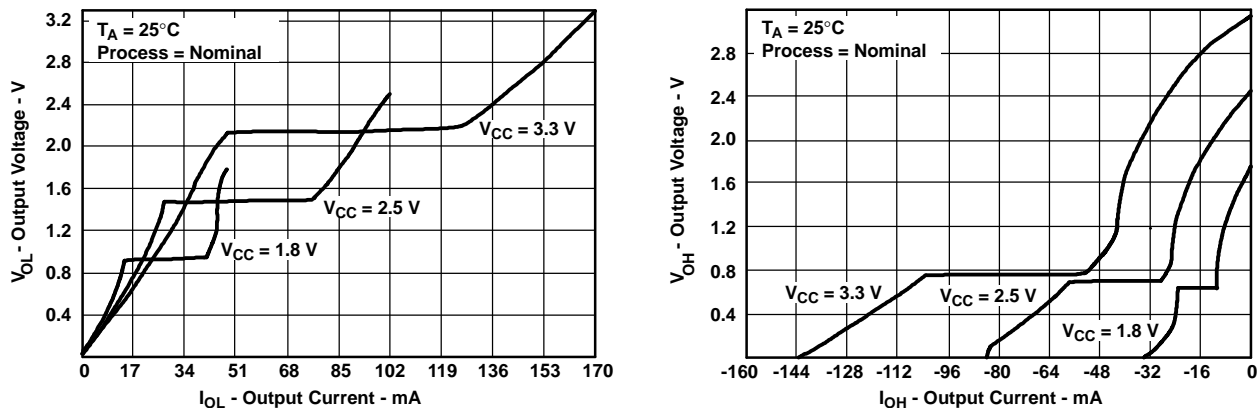

Figure 1. Output Voltage vs Output Current
A Dynamic Output Control (DOC™) circuit is implemented, which, during the transition, initially lowers the output impedance to effectively drive the load and, subsequently, raises the impedance to reduce noise. Figure 1 shows typical V_{OL} vs I_{OL} and V_{OH} vs I_{OH} curves to illustrate the output impedance and drive capability of the circuit. At the beginning of the signal transition, the DOC circuit provides a maximum dynamic drive that is equivalent to a high-drive standard-output device. For more information, refer to the TI application reports, *AVC Logic Family Technology and Applications*, literature number SCEA006, and *Dynamic Output Control (DOC™) Circuitry Technology and Applications*, literature number SCEA009.
(1) All unused inputs of the device must be held at V_{CC} or GND to ensure proper device operation. Refer to the TI application report, *Implications of Slow or Floating CMOS Inputs*, literature number SCBA004.
(2) Dynamic drive capability is equivalent to standard outputs with I_{OH} and I_{OL} of ±24 mA at 2.5-V V_{CC}. See Figure 1 for V_{OL} vs I_{OL} and V_{OH} vs I_{OH} characteristics. Refer to the TI application reports, *AVC Logic Family Technology and Applications*, literature number SCEA006, and *Dynamic Output Control (DOC™) Circuitry Technology and Applications*, literature number SCEA009.